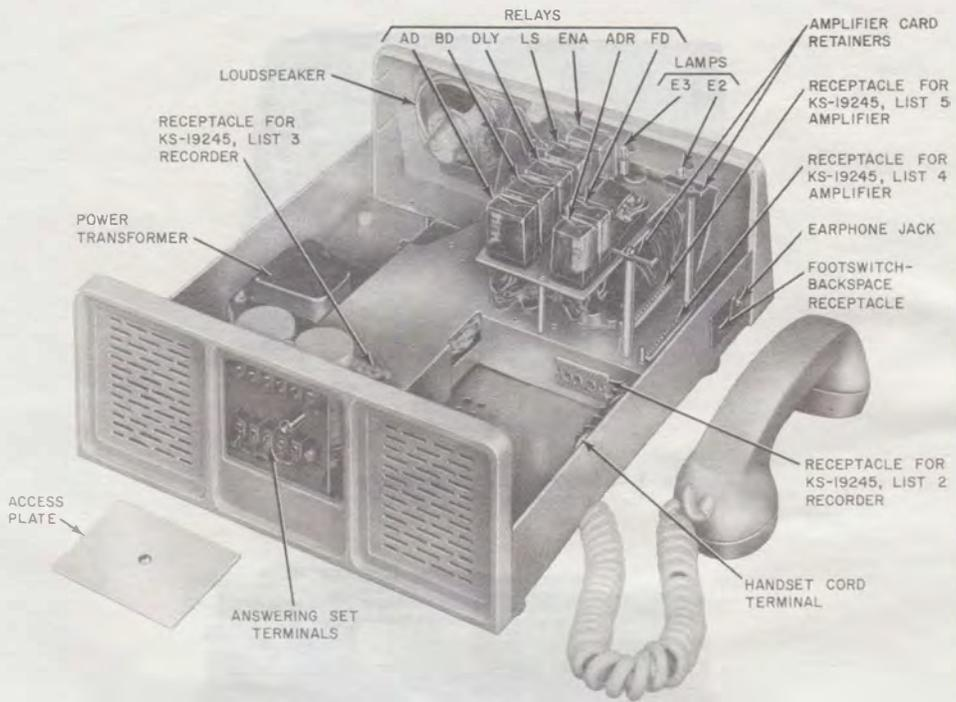

Fig. 4—KS-19245, List 1 Telephone Answering Set, Cover and Plug-In Components Removed
- (1) Remove top cover (2.01).
- (2) Remove ENA relay (3.04).
- (3) Pull out and hold spring clip on side of lamp socket and remove lamp E3 (Fig. 4).
- (4) Replace lamp E3, ENA relay and top cover.♦
- (3) Plug new recorder into the plug-in receptacle (Fig. 4).
- (4) Replace and tighten the three retaining screws.
- (5) Replace outer cover and tighten four retaining screws.
- (5) Firmly grasp chassis of List 3 recorder and carefully withdraw until plug-in receptacle is disengaged (Fig. 4).
- (7) Plug new recorder into the plug-in receptacle (Fig. 4).
- (8) Replace and tighten the three retaining screws.
- (9) Replace List 6 cartridge (6.02).
- (10) Replace side and top covers.
- (1) Remove top cover of answering set (2.01).
- (2) Loosen retaining screws of the circuit board retainers.
- (3) Remove amplifier from its plug-in receptacle.
- (4) Plug new amplifier into plug-in receptacle (Fig. 4) and tighten screw of circuit board retainers.
- (5) Replace top cover.
### 3.04 Replacement of AD, BD, DLY, ENA, ED, LS, or ADR relays (Fig. 4):
- (4) Plug new relay into the plug-in socket (Fig. 4).
- (5) Engage wire spring retainer.
- (6) Replace top cover.
- (2) Remove KS-19245, List 3 recorder (3.02).
- (3) Unsolder speaker leads.
- (4) Remove four nuts and withdraw speaker (Fig. 4).
- (5) Install new speaker and tighten nuts.
- (6) Solder speaker leads.
- (7) Replace List 3 recorder.
- (8) Replace top cover.